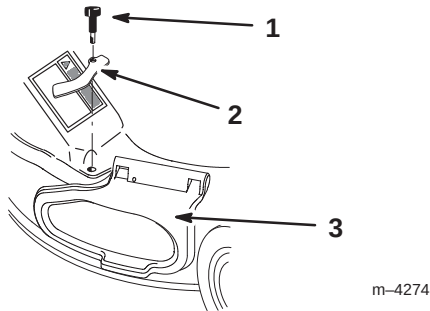

Figure 36
12. Secure the front right corner of the discharge tunnel and the side opening cover with the side cover clamp removed previously and the long knob supplied with the grass catcher (Fig. 36)